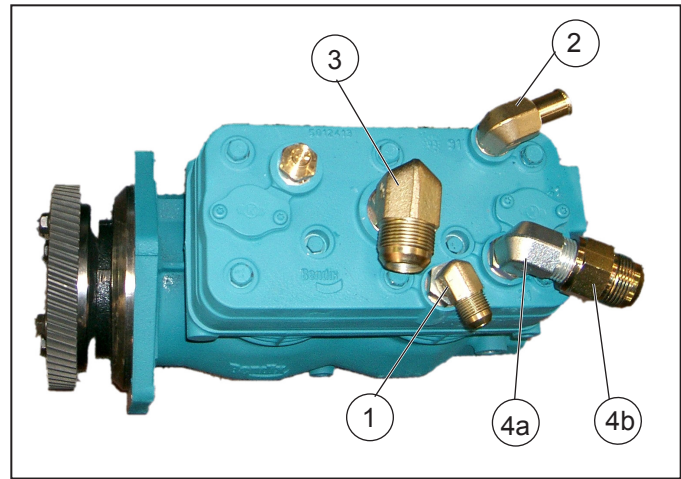

Figure 2 – Compressor Preparation
PREPARE THE REPLACEMENT COMPRESSOR (SEE FIGURE 2)
6. Install the coolant inlet fitting (2) – a 90° M18 to 3/4" hose bead adapter) with final orientation towards the rear of the compressor.
7. Install the compressor air inlet fitting (3) – a 90° M27 to #16 JIC adapter) as shown in Figure 2. It is installed oriented to the left side of the compressor.
8. Install the compressor coolant outlet fitting (1) – a 90° M18 to #8 JIC adapter). It is oriented to the left side - see Figure 2.
17. Install the Lubricating Oil Tee Fitting (6) into the compressor. (See Figure 2). Connect the lubrication oil supply line that was adjusted in Installation Step 2 on page 4 to the vertical leg of the tee fitting (6). Typically, the lubrication oil supply hose leading to the alternator connects to the third port of the tee fitting. In installations where an oil cooled alternator is not used, plug the unused tee fitting port.